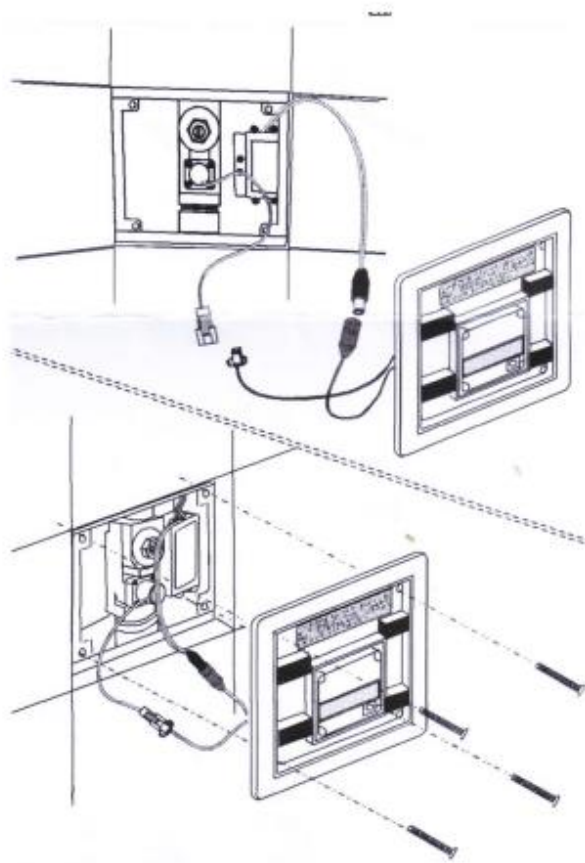

Fig. 1.33: Insertion of batteries and powering on
4. Open the battery holder and insert batteries as required. Connect sensor panel, power cables and solenoid valve. Put the power adapter and battery holder back into the mortar. When the power is turned on, the LED light will flash once. (Refer Fig. 1.33)